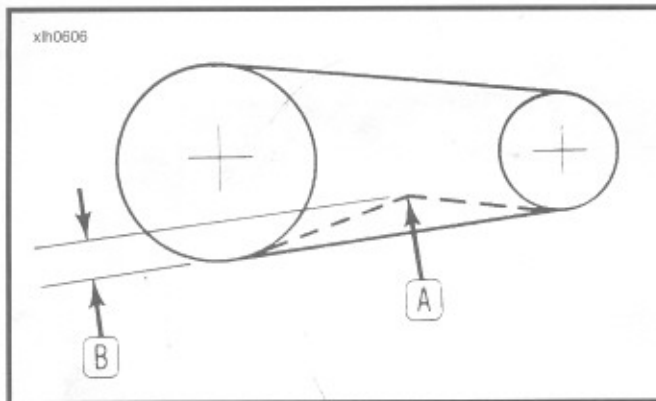

Figure 6-7. Secondary Drive Belt Deflection
GENERAL (Figure 6-7)
1. Determine belt deflection in manner specified in GENERAL above. See Figure 6-7. If belt deflection "B" is not 9/16-11/16 in. (14.3-17.5 mm) (measured at position "A"), adjust per the following procedures.